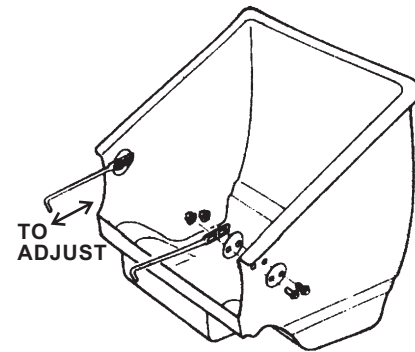

FIGURE 8: Adjust the grass catcher for proper clearance from the reel blades before tightening the catcher hook nuts.
1. Refer to Figure 8. Loosen the rear nuts and bolts on the catcher hooks. Remove the front nut and bolt from each catcher hook, then rotate the catcher hooks into the correct position and fasten each hook with the two bolts and nuts. Do not fully tighten the nuts until the grass catcher is adjusted for proper clearance from the reel blades.